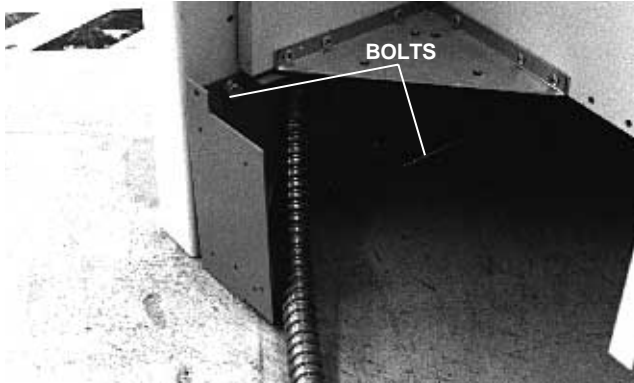

FIGURE 5
5. Install the bolt assemblies, through the cabinet and sub-base, into the column in the positions shown in Figure 5. Do not fully tighten the bolt assemblies at this time.